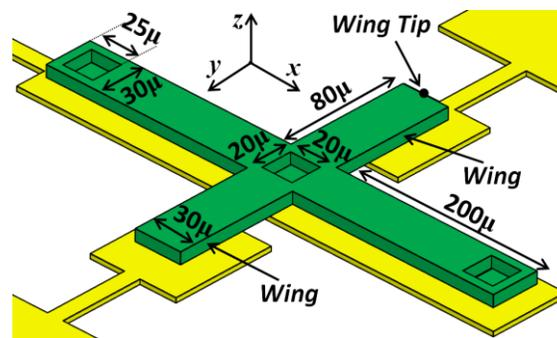

Fig. PS5.1-1: Zoom in of the polysilicon beam structure
1. Suppose you would like to use the process flow outlined in Problem Set #3 to fabricate the suspended cross beam structure, which you have already seen in Problem Set #4. The structure is constructed entirely of doped polysilicon, i.e., the yellow and green layers are both doped polysilicon. Dimensions for most of the features are indicated in Figs. PS5.1-1 to PS5.1-3. The structure itself (in green) is meant to be $2\ \mu\text{m}$ thick, and the interconnect layers beneath (in yellow) are meant to be in a thin doped polysilicon layer.
Use Cadence to generate a layout that achieves the structure of Figs. PS5.1-1 to PS5.1-3 using the process flow outlined in Problem Set #3. In addition, add a contact to the substrate ground plane with sufficient area to allow bond wiring to this contact. Also, add interconnect and a bond pad that allows the structure to be biased to a specific voltage during testing. Make sure the spacings for the bond pads are sufficient to allow wire bonding. Export your layout to a GDS file and email it to your GSI using 'HW5_layout_last name_first name' as the email title and GDS file name.